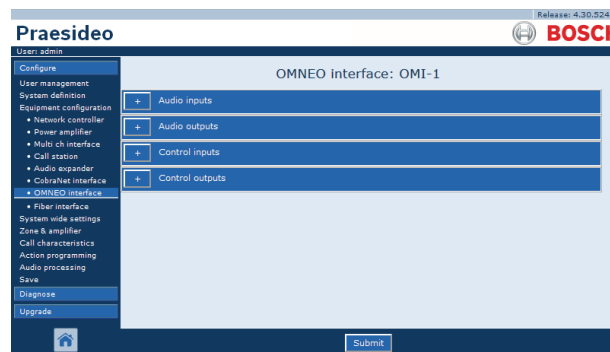

figure 44.45: Configure OMNEO interface step 2
- 2 Click the name of the OMNEO interface that must be configured. A screen similar to the one in figure 44.45 appears in the main frame of the web interface.